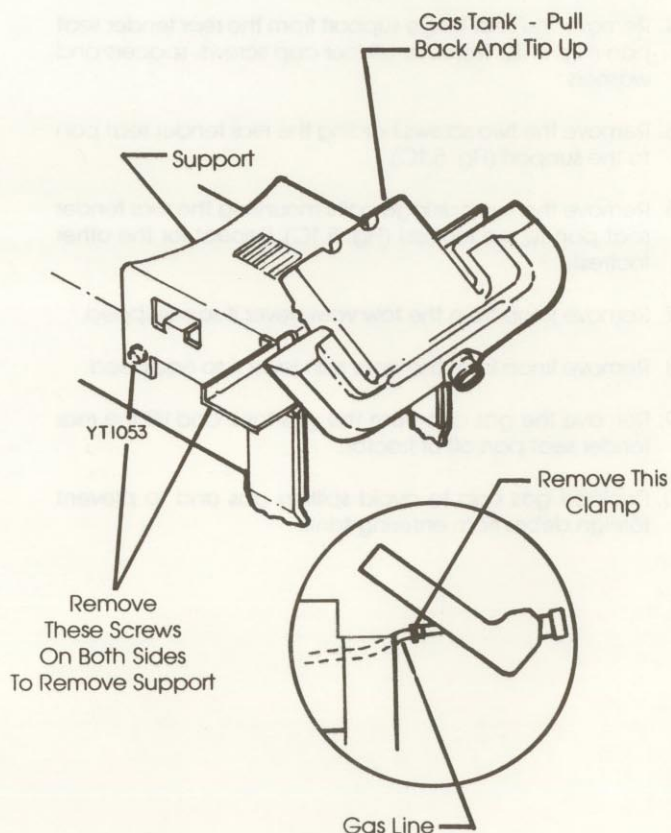

FIG. 5.2B
1. Remove the two screws on each side of the support (Fig. 5.2B). Carefully slide the support toward the front of tractor.
6. Gently pull the gas tank straight back until the front edge of gas tank clears the back edge of the support (Fig. 5.2B). Be careful not to pull gas line out of mounting clip at front of tractor.
7. Tip the front of gas tank up past the top of tractor frame and remove the clamp holding the gas line to the tank. Remove the gas line from the tank (Fig. 5.2B).